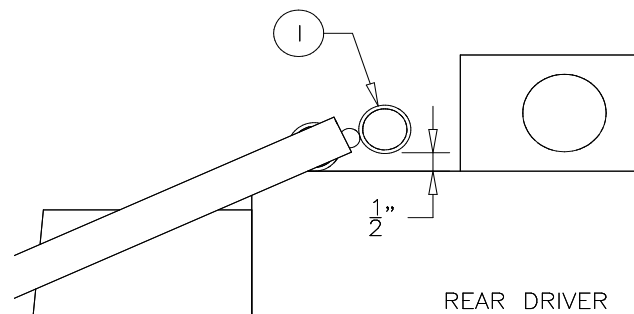
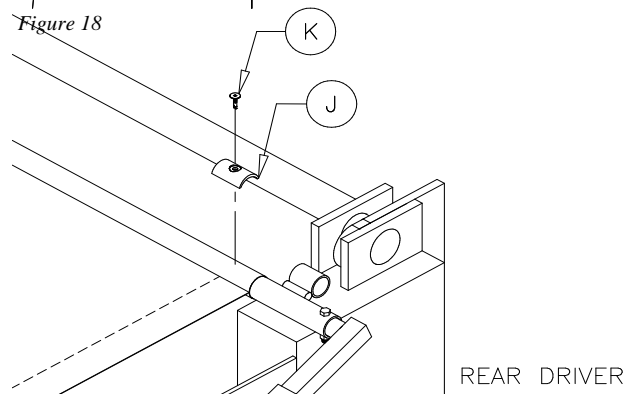

Figure 18
Figure 19
Rotate the rear pivot arm crossmember (F) so that the crossmember guides (I) are approximately 1/2" above the top of the box (see Figure 18). Using a 5/16" drill bit, drill through the pivot arm crossmember (F) and top pivot arm (G). Secure the pivot arm crossmember to the top pivot arms with the 5/16"x1-3/4" hex bolts (H) and 5/16" nylon lock nuts provided (see Figure 19).